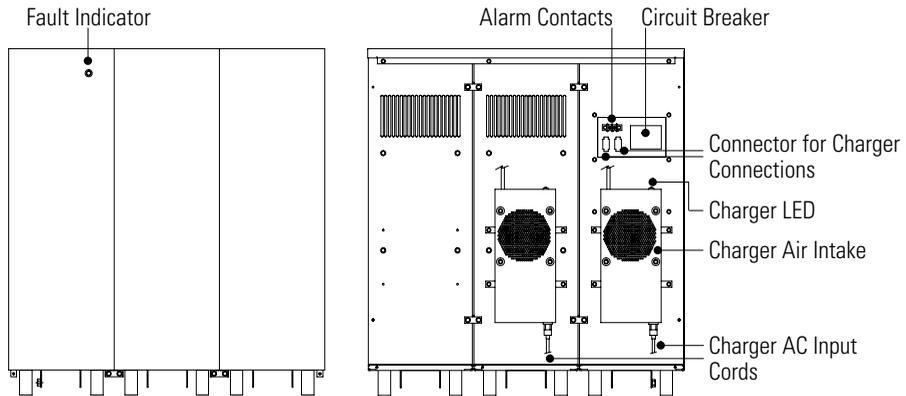

Figure 15. The EBCU (Front and Rear Views)
6. Verify the circuit breaker on all EBCUs is in the OFF (O) position (see Figure 15).